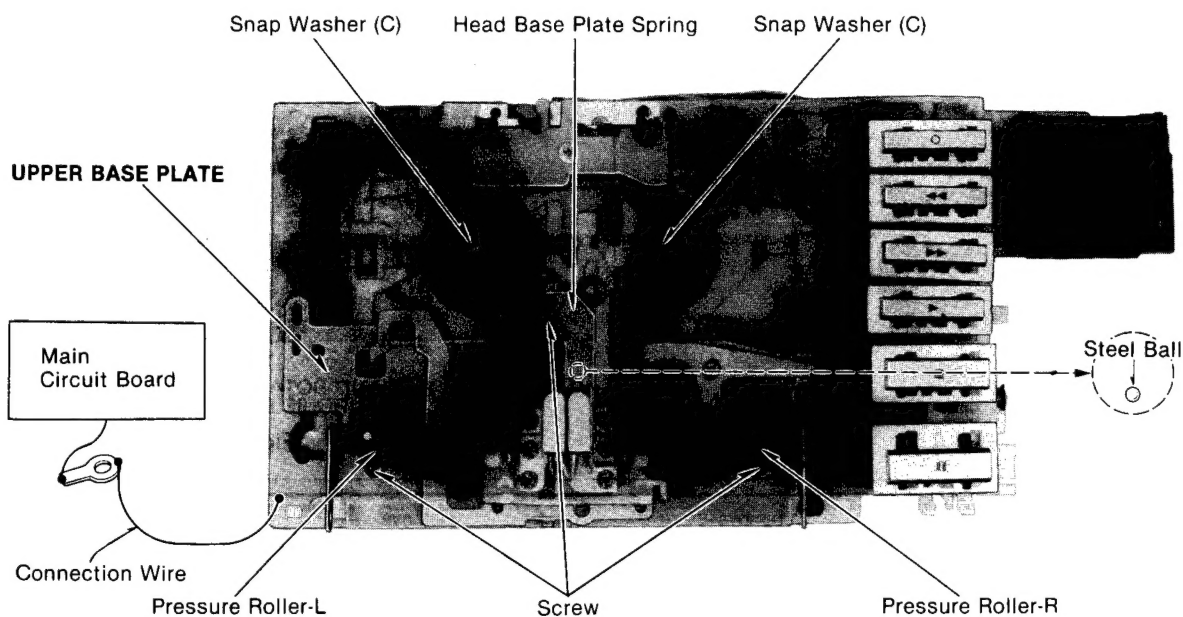

Fig. 1
1. For measurement and adjustment with the mechanical unit removed from the set, connect the mechanical chassis and lug terminals with connection wires, as shown in Fig. 1. This is to prevent influence from mechanical noise.
Remove the pinch rollers (R and L) and 3 screws as shown in Fig. 1. (Be careful not to lose the steel ball under the head base plate spring.)
First, remove the screw (a), then the detection lever angle. Then, remove the screw (b), as shown in Fig. 1 and 2.
Remove 2 snap washers (c), then 2 screws (d) to pull out the assembly, as shown in Figs. 1 and 2.